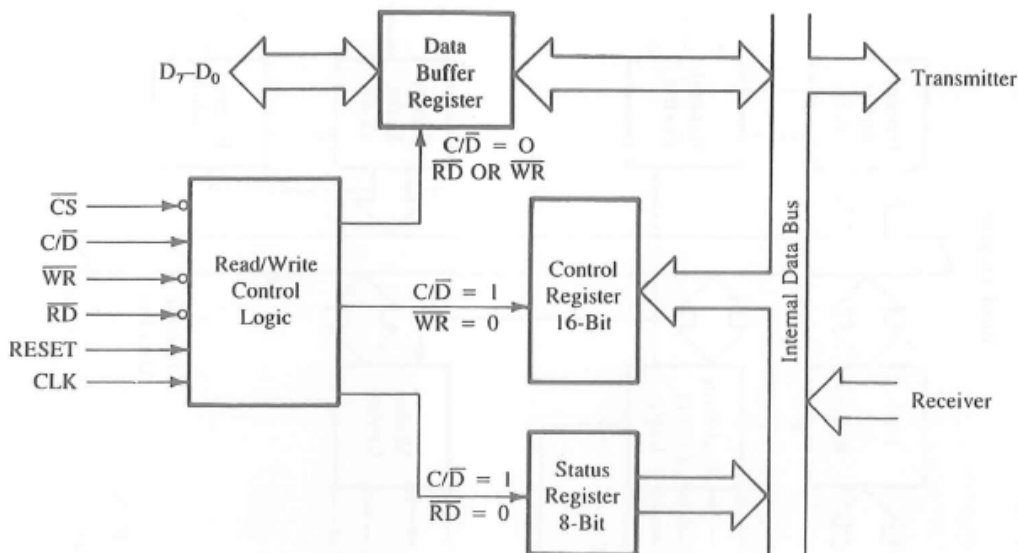

Figure 3.16 8251A Expanded Block Diagram of Control Logic and Registers
- ❖ Figure 3.16 shows an expanded version of the 8251A block diagram.